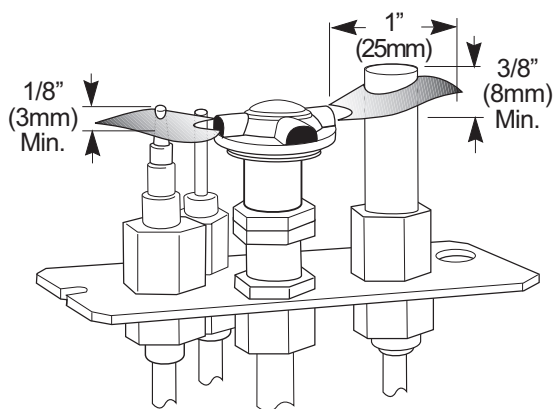

Figure 28. Proper pilot flame appearance.
2. **PILOT FLAME:** See figs. 28 and 28a. You can monitor the pilot flame through the view port located at the rear under the Right Log. The pilot flame should be steady - not lifting or floating. The flame should be blue in color around the pilot hood, with traces of yellow toward the outer edges.